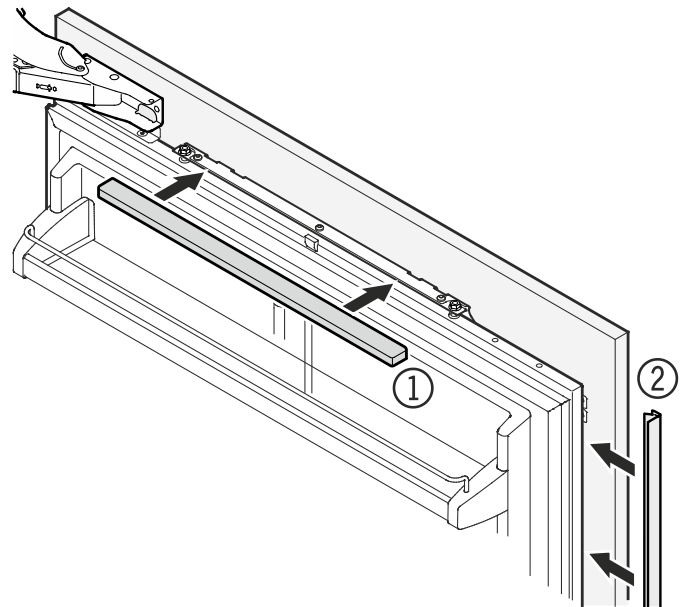

Figure 42
11. Click cover ① into place. Insert the cover strip provided ② between refrigerator door and panel (**Figure 42**).